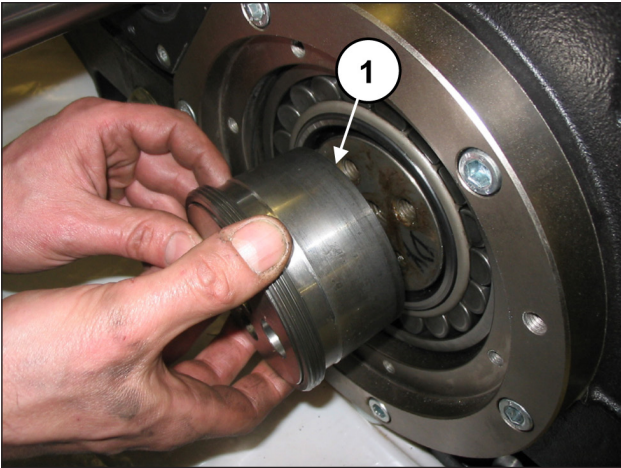

Fig. 21
Remove both pressure bushes (pos. ①, Fig. 21).